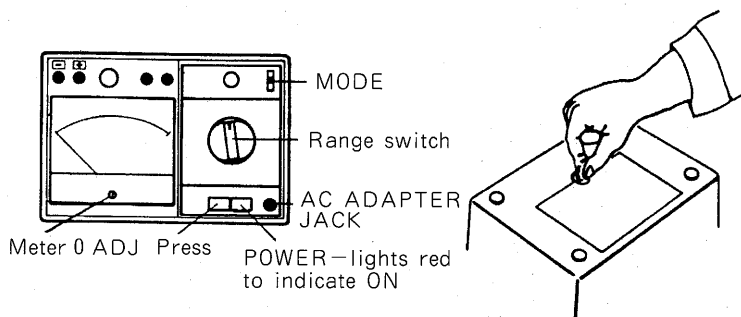

Figure. 6.1 Battery Replacement
- If the pointer fails to reach the BATT OK zone, the batteries require replacement. This may be accomplished by using coin to loosen the battery cover screw and replacing the batteries inside, observing the correct pole polarity. The instrument uses four R14P battery. (Refer to Figure 6.1)
(4) Connecting the cables.